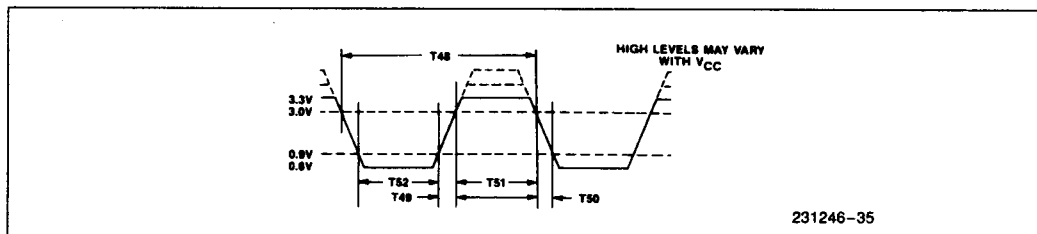

Figure 34. $\overline{TxC}$ Input Voltage Levels for Timing Measurements
14. 82C501 compatible levels, see Figure 34